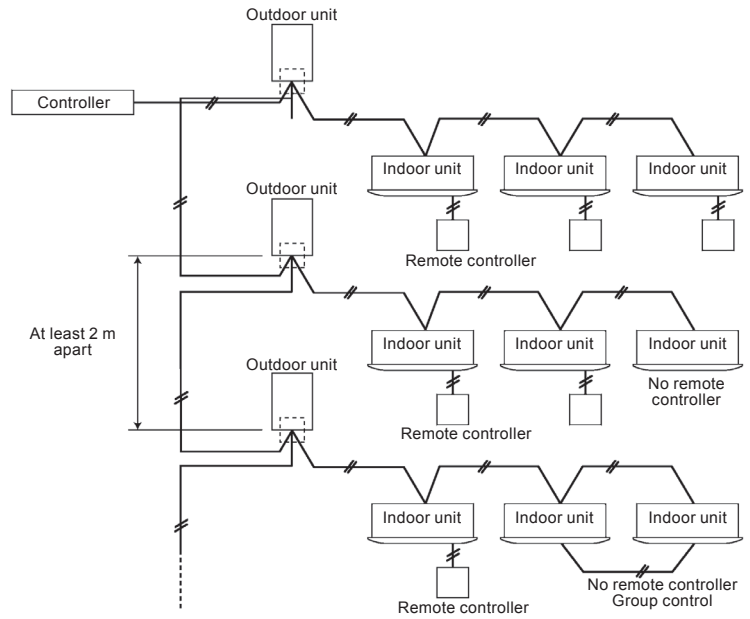

Figure 5
- a) A bus system shall basically be used for multiple systems. (Figure 5)
- There should be no more than 16 branch locations. (Figure 5)
- Make sure wiring between branch locations and branch points is 2 m or more. (Figure 5)
② Control wire
❶ Bus system (can be branched to max 16 location). Outdoor link is basic. (Figure 5)